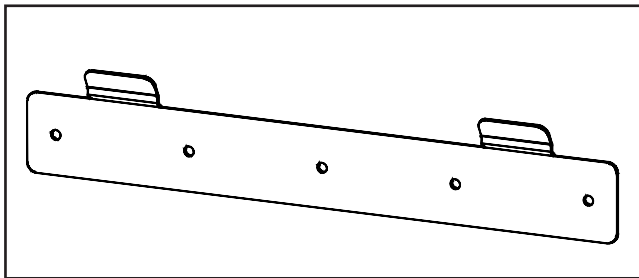

Figure 3.3 - Support Bracket
2. Position the support bracket (see fig. 3.3) which is supplied with the **Glow** water heater above the line drawn with the level, respecting the distances indicated. Mark the center positions of the two wall-plugs or anchors. Finally, mark the positions of the water lines and gas pipe.